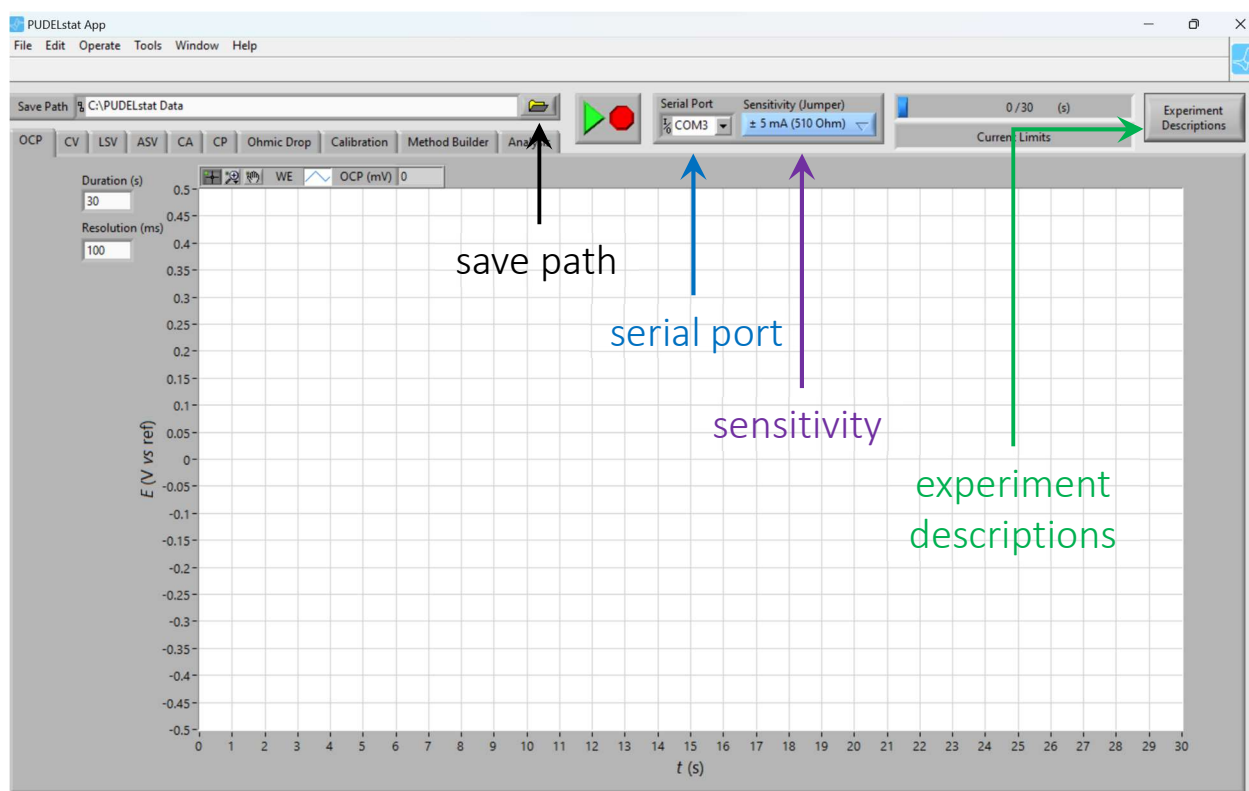

Figure 4. Configuring PUDELstat App.
2. Open PUDELstat App and configure your experiment as needed by clicking on the following buttons on the top portion of the application window (**Figure 4**):